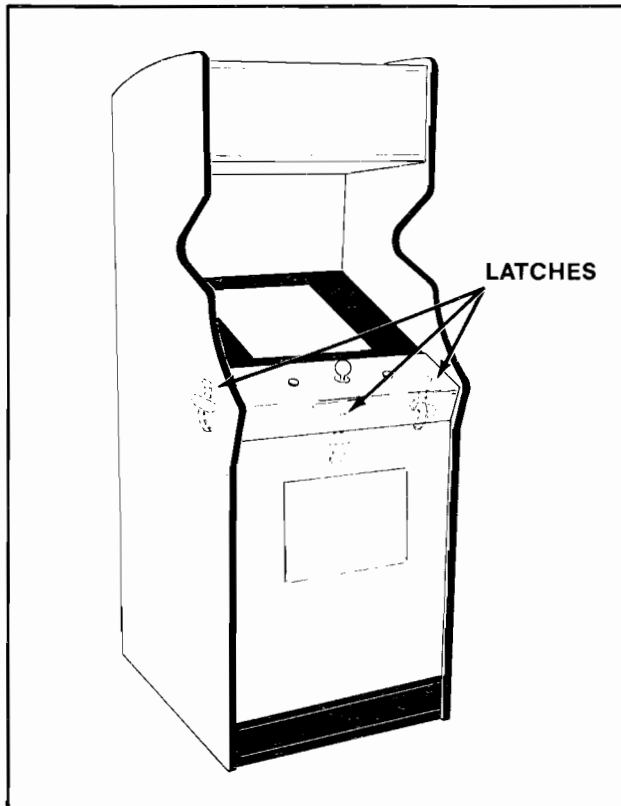

Figure 4-2 Opening the Control Panel — Upright
**OPENING THE CONTROL PANEL.** See Figure 4-2.